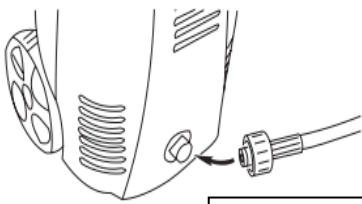

Fig.6
6. COLLECT THE PRESSURE HOSE WITH THE WASHER (Fig.6)